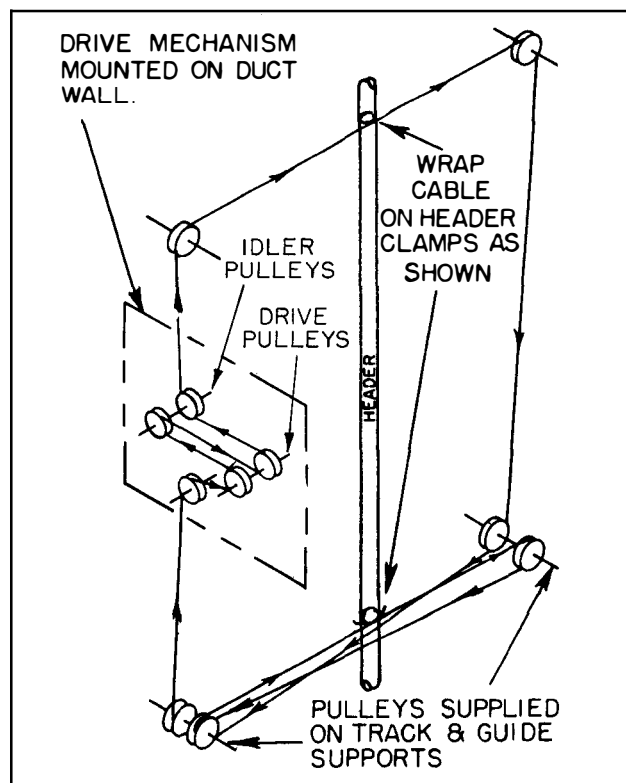

Fig. 18. Arrangement of Drive Cable
**Drive Cable** should be installed as shown in Fig. 18. Before stringing, remove cover from drive mechanism and completely back-off tension arm screw. Also place the spray header at center of the frame bank and loosen the cable clamps.